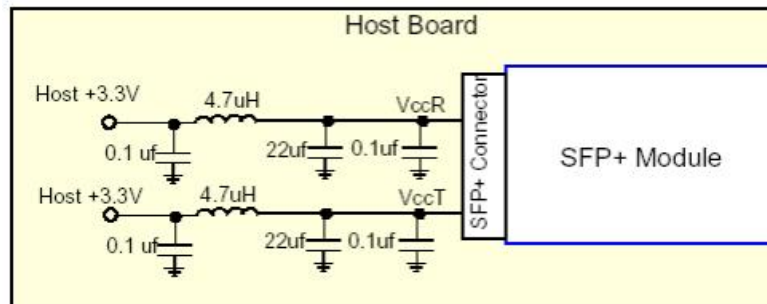

Figure 3 Recommended Host Board Power Supply Circuit for SFP+
3. AC coupled with 100Ω differential output impedance. See Figure 3 for output eye mask.